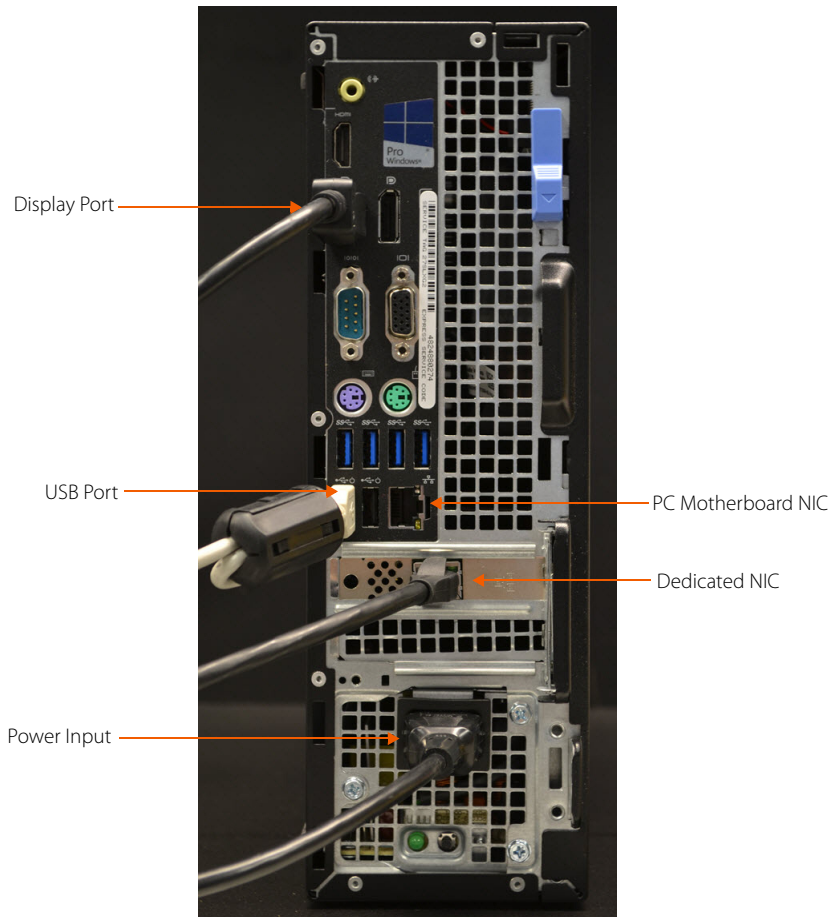

Figure 1-4: PC back panel interconnections.
PC back panel connections (Figure 1-4):
- **Barcode scanner.** Connect this to any USB port (Figure 1-4).
- **Monitor (video display).** Display Port connector (Figure 1-4).